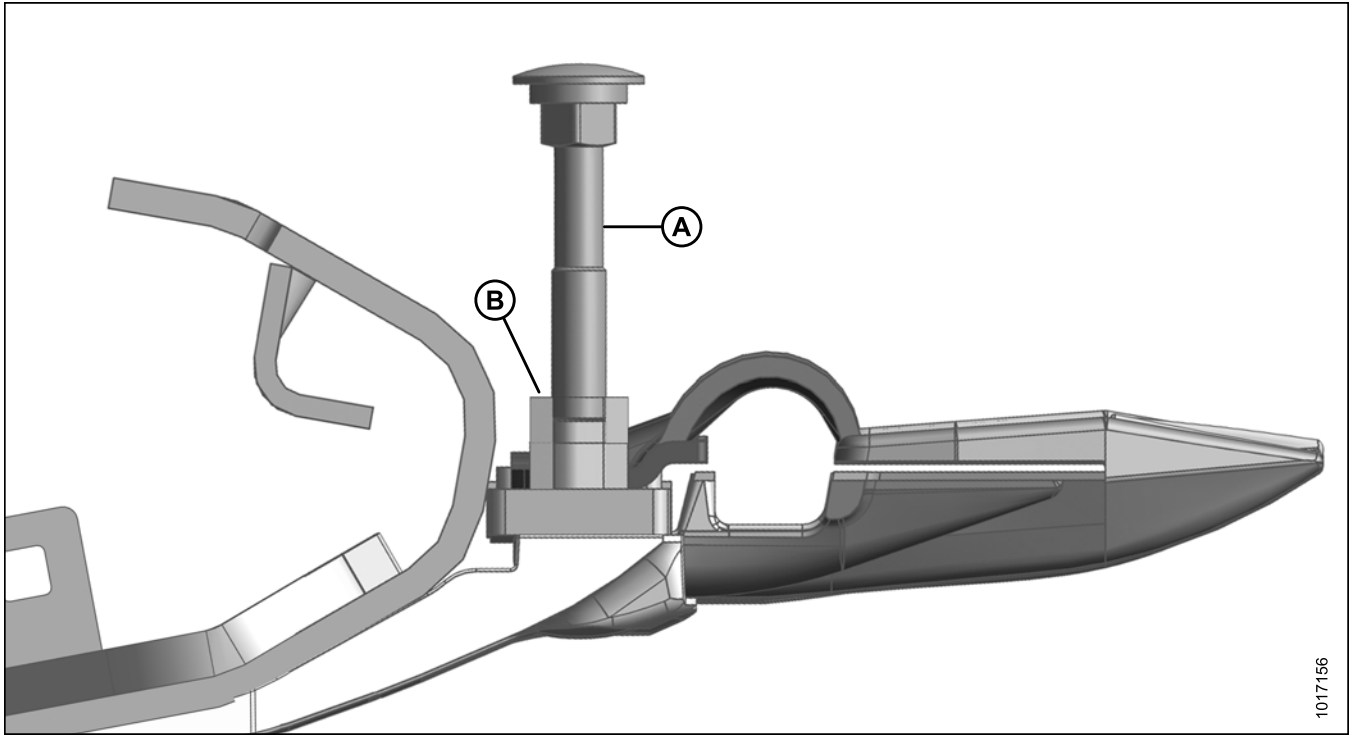

Figure 3.20: Side View of Cutterbar
10. Install one bolt (A) removed in previous step on each end of the cutterbar by placing a 7/16 in. nut (B) over the existing guard bolt and then threading the bolt into the nut. Refer to Figure 3.20: *Side View of Cutterbar*, page 19.